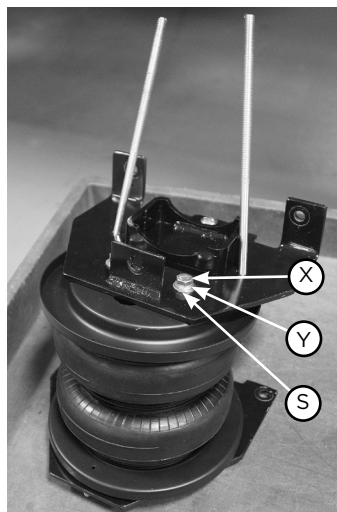
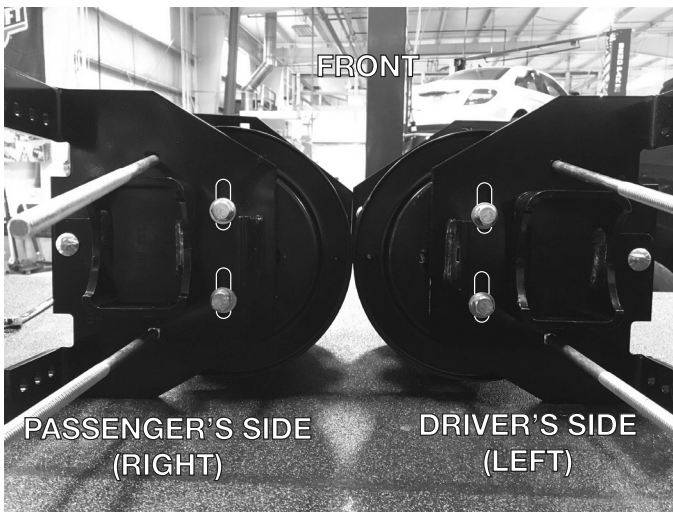

Fig. 12
Fig. 13
- Set the lower bracket main plate assemblies onto the air springs with the roll plates installed. Attach with 3/8"-24 X 7/8" hex bolt (X), 3/8" lock washers (Y) and 3/8" flat washers (S) (Fig. 12). Push the lower bracket as far forward as possible. Torque the hardware to no more than 20 lb.-ft. (27Nm). Refer to Figure 13.